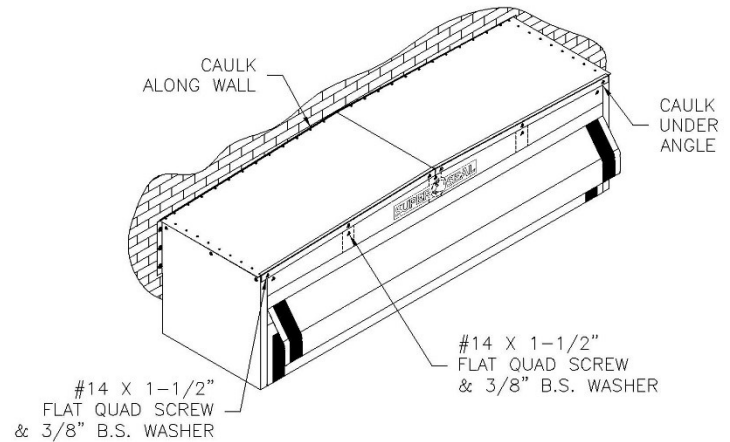

FIG. 5
- ii. Insert screws and 3/8" washer into holes (Fig. 5).